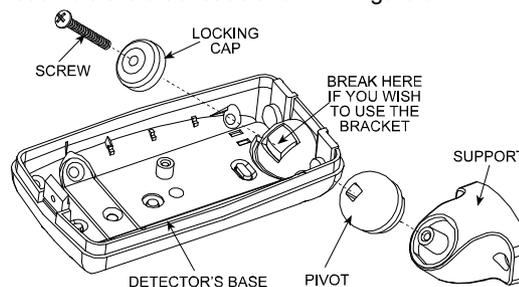

Figure 6. Attaching the Bracket
3. Punch out the large knockout in the round bulge at the top part of the base (see Figure 6).
4. Assemble the bracket as shown in Figure 6.